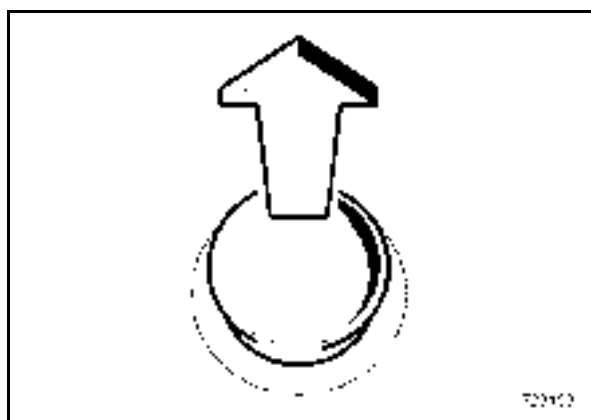

Fig. 34
- If necessary unlock the emergency stop switch (Fig. 34).